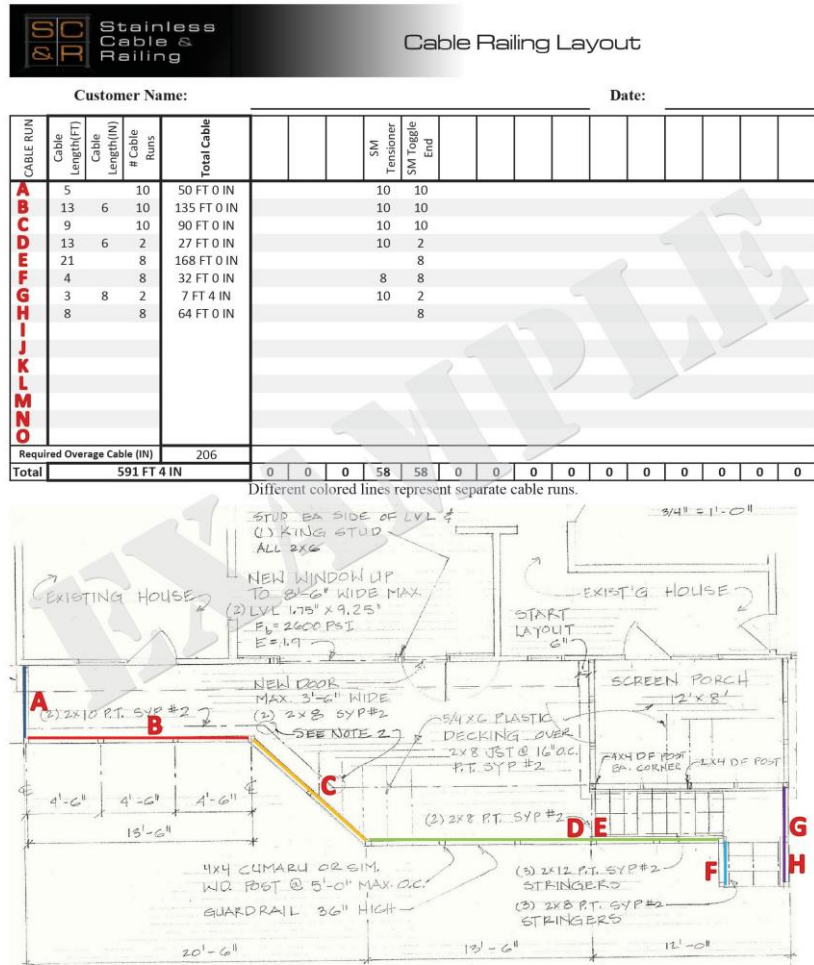

Fig 1
- Determine where the cable will start and stop (ie; Sections). Reference the color-coded layout sheet (Fig 1) if it was included with these instructions.
Refer to the layout (Fig 1) for proper post location. Pay particular attention to double (offset) post locations to be sure they will match up with the top rail corners.
Use the layout (Fig 1) to determine post position. Additional blocking may be needed for strength and should be added at this time. Adjust mounting location up or down, as needed, keeping in mind the following: